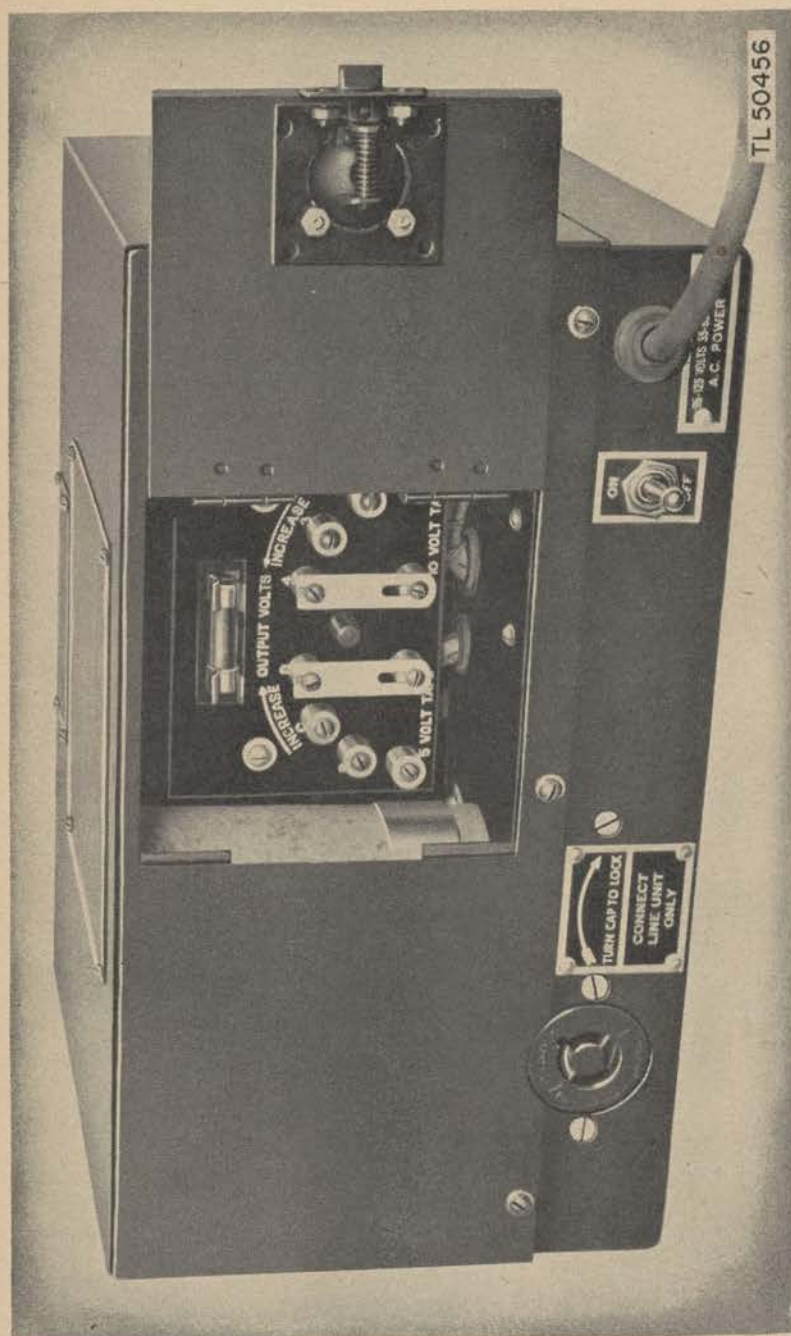
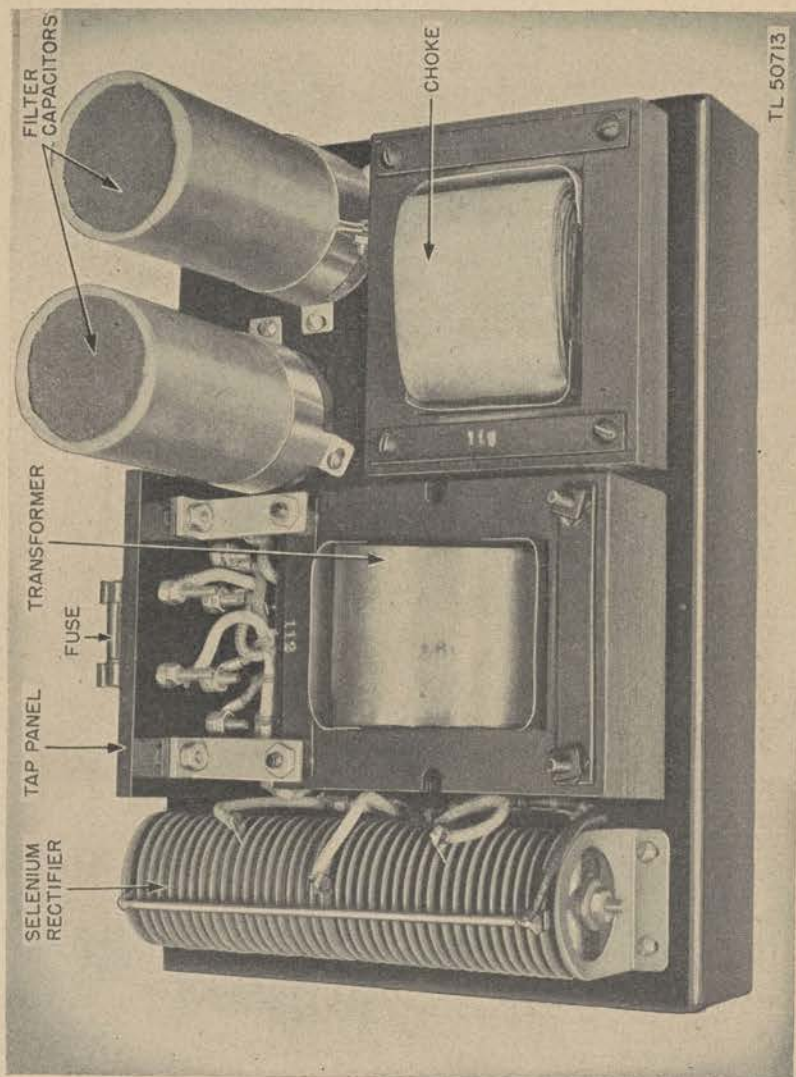
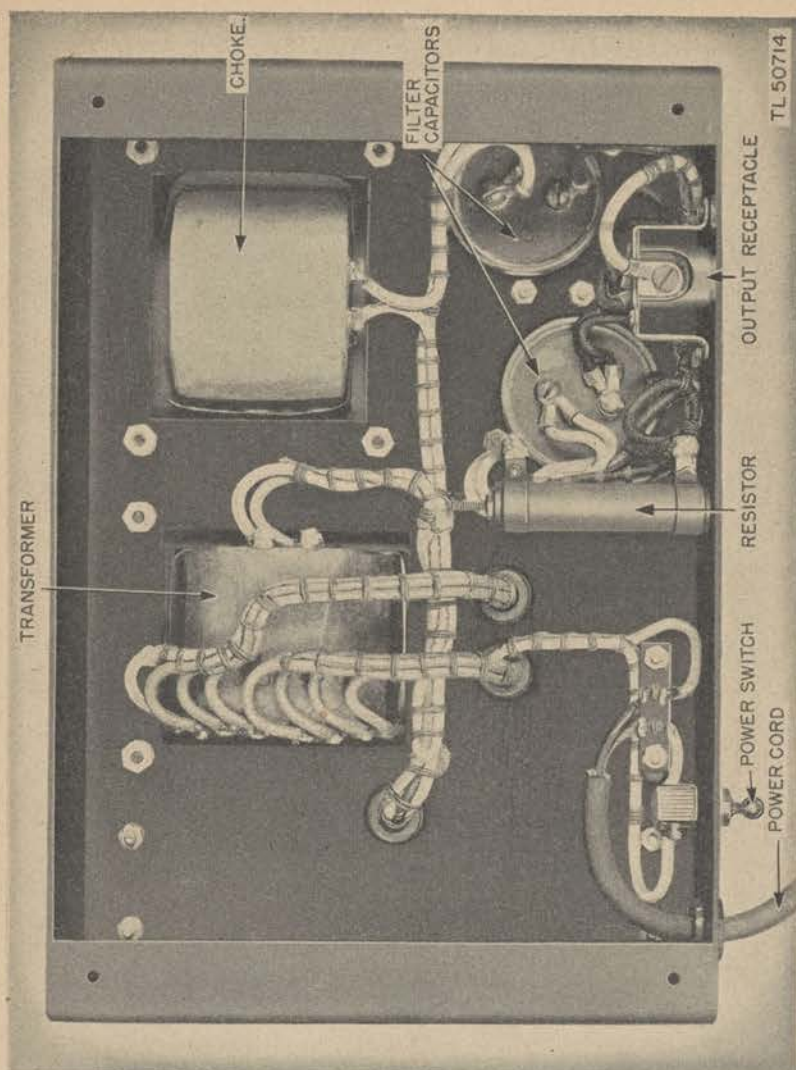

Figure 2. Rectifier RA-37—front view.
Figure 7. Rectifier RA-37—inside view.
Figure 8. Rectifier RA-37—bottom view.
be reached through a hinged door on the cover (fig. 2). On the front of the chassis are a twist-type receptacle for the d-c load, an ON-OFF line switch, and a 6-foot attached cord and plug for connection to a power source (figs. 2 and 9). On top of the chassis cover is a plate containing operating instructions; fastened inside the cover are a practical wiring diagram and a schematic wiring diagram. A tapped transformer (figs. 7 and 8) is bolted on top of the chassis to supply alternating current to the selenium dry-disk rectifier mounted next to the transformer and across one end of the chassis. Mounted on the other end of the chassis are an iron-core choke coil and two high-capacity electrolytic capacitors which filter current from the selenium rectifier unit. A tap-changing panel mounted at one end of the power transformer has eight primary taps for setting to the proper line voltage. A pair of fuse clips on the tap-changing panel provide for a 5-ampere a-c line fuse. A bleeder resistor is mounted inside the chassis below the tap-changing panel (figs. 8 and 11). **DO NOT** use a fuse larger than 5 amperes. A smaller fuse may be used.
c. Power source. Be sure that the available power source is 95- to 125-volt, 55- to 65-cycle, a-c (fig. 2).
e. Tap-control links. Open the door on the front of the rectifier by pulling the latch ring out until the latch releases. See that the two tap-control links are in place and firmly secured; one between the 10-volt tap common post and one of the numbered posts, the other between the 5-volt tap common post and one of the lettered posts (figs. 2 and 5). Check to see that the fuse is good and is held firmly in the fuse clips.
g. Output voltage check. Turn the rectifier ON-OFF switch to ON and check the output voltage on the line unit voltmeter. If the voltage is not within 5 volts of 115 volts, turn the rectifier off and change one of the tap links (figs. 2 and 5). Move the tap link to increase or decrease the output voltage as required. Again turn the ON-OFF switch to ON and check the voltage. Repeat the tap-link adjustment until the correct output voltage is obtained. Figure 6 illustrates details of the output voltage check.
6. OPERATION. When installed and connected, Rectifier RA-37 can be started and stopped by means of its ON-OFF switch (figs. 2 and 9). The rectifier is silent in operation except for a slight line-frequency hum in the transformer. This hum can be heard only when the ear is placed close to the rectifier. In normal operation under full load, the temperature of the rectifier rises slowly and reaches maximum normal operating temperature after 4 or 5 hours.
7. RECTIFYING ELEMENT. The rectifying element (fig. 7) consists of four sections of rectifying selenium disks connected as a full-wave bridge rectifier. Alternate sections carry current on each half-cycle of the input alternating current. The d-c potential existing across its output terminals is pulsating with a large ripple component. The no-load ripple is approximately 65 volts and is about 7 percent greater at full load.
11. BLEEDER RESISTOR. The bleeder resistor (fig. 8) stabilizes the d-c voltage at very low loads. If no bleeder resistor is used, the variation of the no-load voltage is directly proportional to the value of the leakage resistance of the capacitor. If the leakage resistance increases, the variation in the no-load voltage increases; if the leakage resistance decreases, the variation in the no-load voltage de-